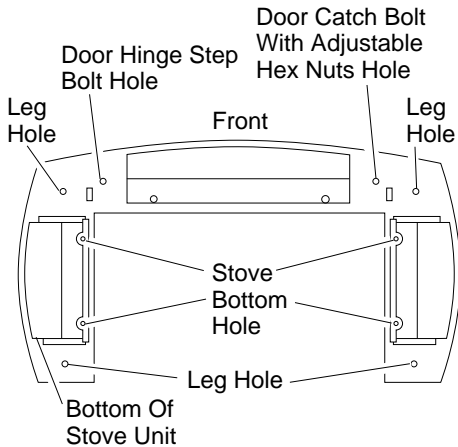
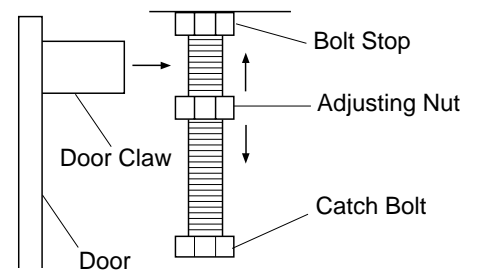

Figure 9 - Locating Threaded Holes for Stove Bottom, Legs, and Door Attachment
Figure 13 - Catch Bolt and Door Claw Orientation
8. Fasten each leg to stove with four (4) M8 x 1.25 - 20mm bolts. Use a flat washer and lock washer with each bolt. Tighten bolts into threaded holes on stove body (see Figures 9 and 10, page 6). Use an adjustable wrench or a 12mm socket.
9. Fasten stove bottom to stove with four (4) M6 x 1 - 25mm bolts. Use a flat washer and lock washer with each bolt. Tighten bolts into threaded holes on stove body (see Figure 9 and 11, page 6). Use an adjustable wrench or a 10mm socket.
10. Attach stove door by inserting step bolt through door hinge pivot hole and into threaded hole in stove body (see Figures 9 and 12). Use an adjustable wrench or a 12mm socket to fasten step bolt. Tighten step bolt until snug. Make sure door moves freely.
11. Install door catch bolt (M8 x 1.25-55mm with two M8 hex nuts) into threaded hole on stove body (see Figure 9). Use an adjustable wrench or a 12mm socket. The catch bolt has two hex nuts attached to it (see Figure 13). The top nut is a bolt stop and the bottom nut is for door leveling adjustment.